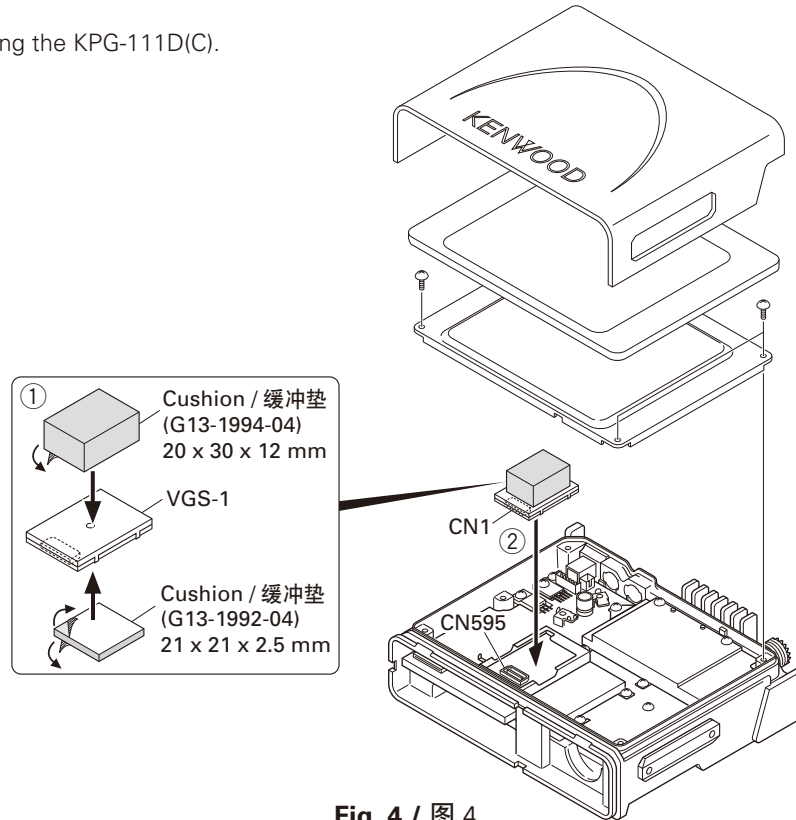

Fig. 4 / 图 4
2. Attach two cushions to VGS-1 as shown in Figure 4. (①)
2. 如图 4 所示，将两块缓冲垫安装到 VGS-1。(①)